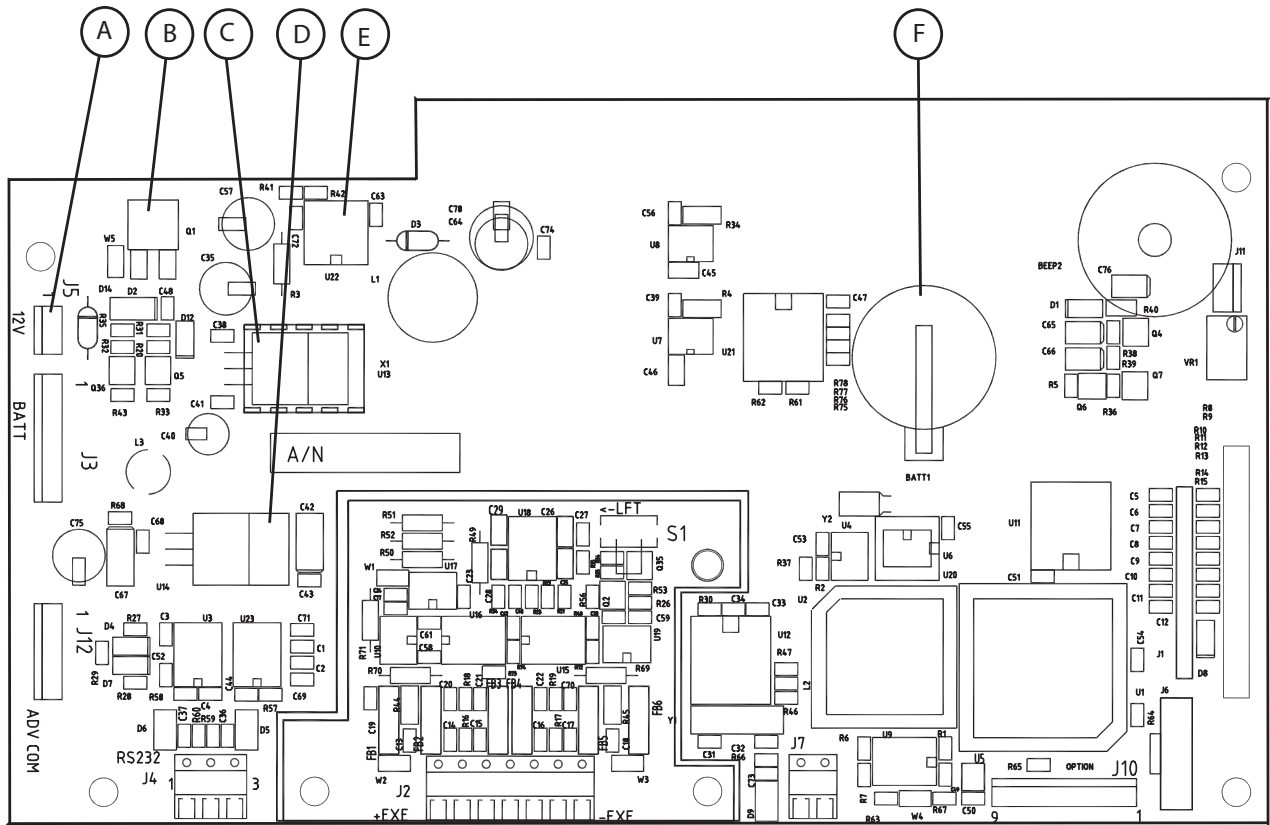

Figure 3-3. Component Layout Diagram.
- Using a DVM, measure the power supply voltage across pins 1 and 3 of J5, location A in Figure 3-3, it should be 12 volts dc, ± 0.24 V dc. This is the power source for the Main PC board and is regulated. If the voltage is low or is not present, refer to section 3.3 and test the Power Supply Board. If the Power Supply board is defective, refer to section 4.4 and replace the board and continue with this procedure. If the board is OK, continue with this procedure.
3. Disconnect the Load Cell cable from connector J2 on the Main PC Board. Refer to Figure 3-3 for connector location.